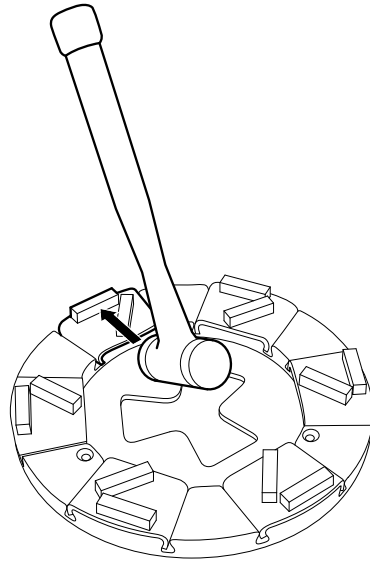

Figure 4-10 Locking grinding tools
2. Lock the grinding tool into the tool holder by giving it a few light taps with a rubber hammer - see Figure 4-10 on page 22.
3. Lock the grinding tool into the tool holder by giving it a few light taps with a rubber hammer - see Figure 4-10 on page 22.